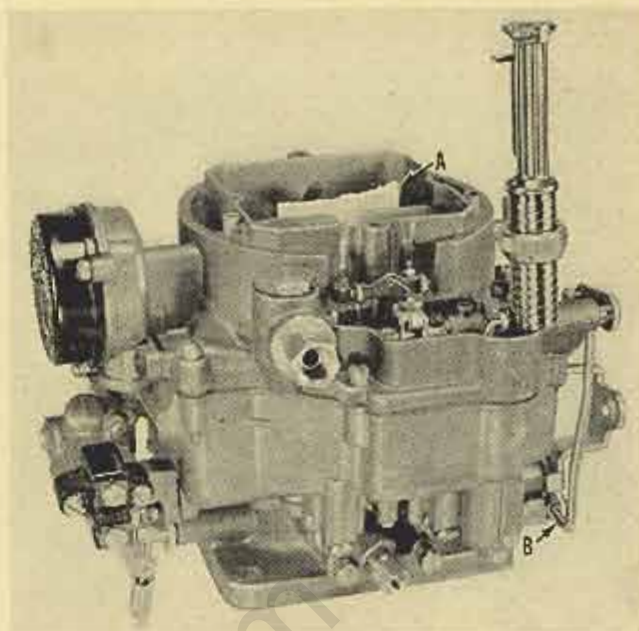

Fig. 9
- A. Block choke valve open with cardboard, "A," Fig. 9.
- C. Place the universal pump travel gauge T109-117S on the edge of the dust cover flange of the bowl cover as shown in Fig. 9. Turn the knurled nut on the gauge until the finger at the end of the gauge extension just touches the top of the plunger shaft. The number indicated on the gauge should be "29" which represents a distance of $\frac{9}{32}$ " from the top of the plunger shaft to the top of the flange. Adjust by bending the throttle connector rod at the lower angle, "B," Fig. 9, using bending Tool T109-75.